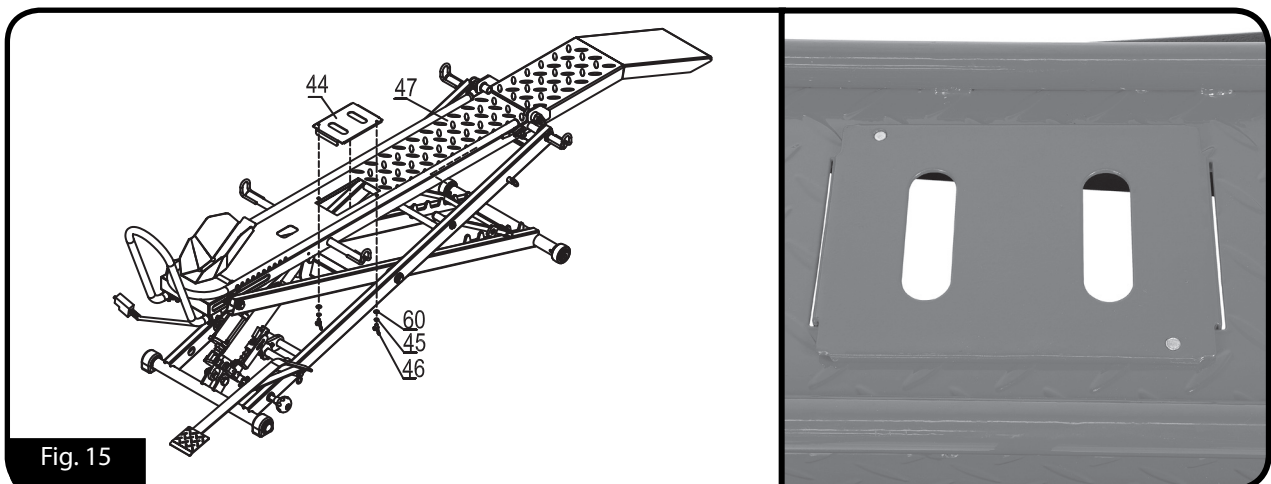

Fig. 15
STEP 5. Remove Rectangular Plate (Fig.15)